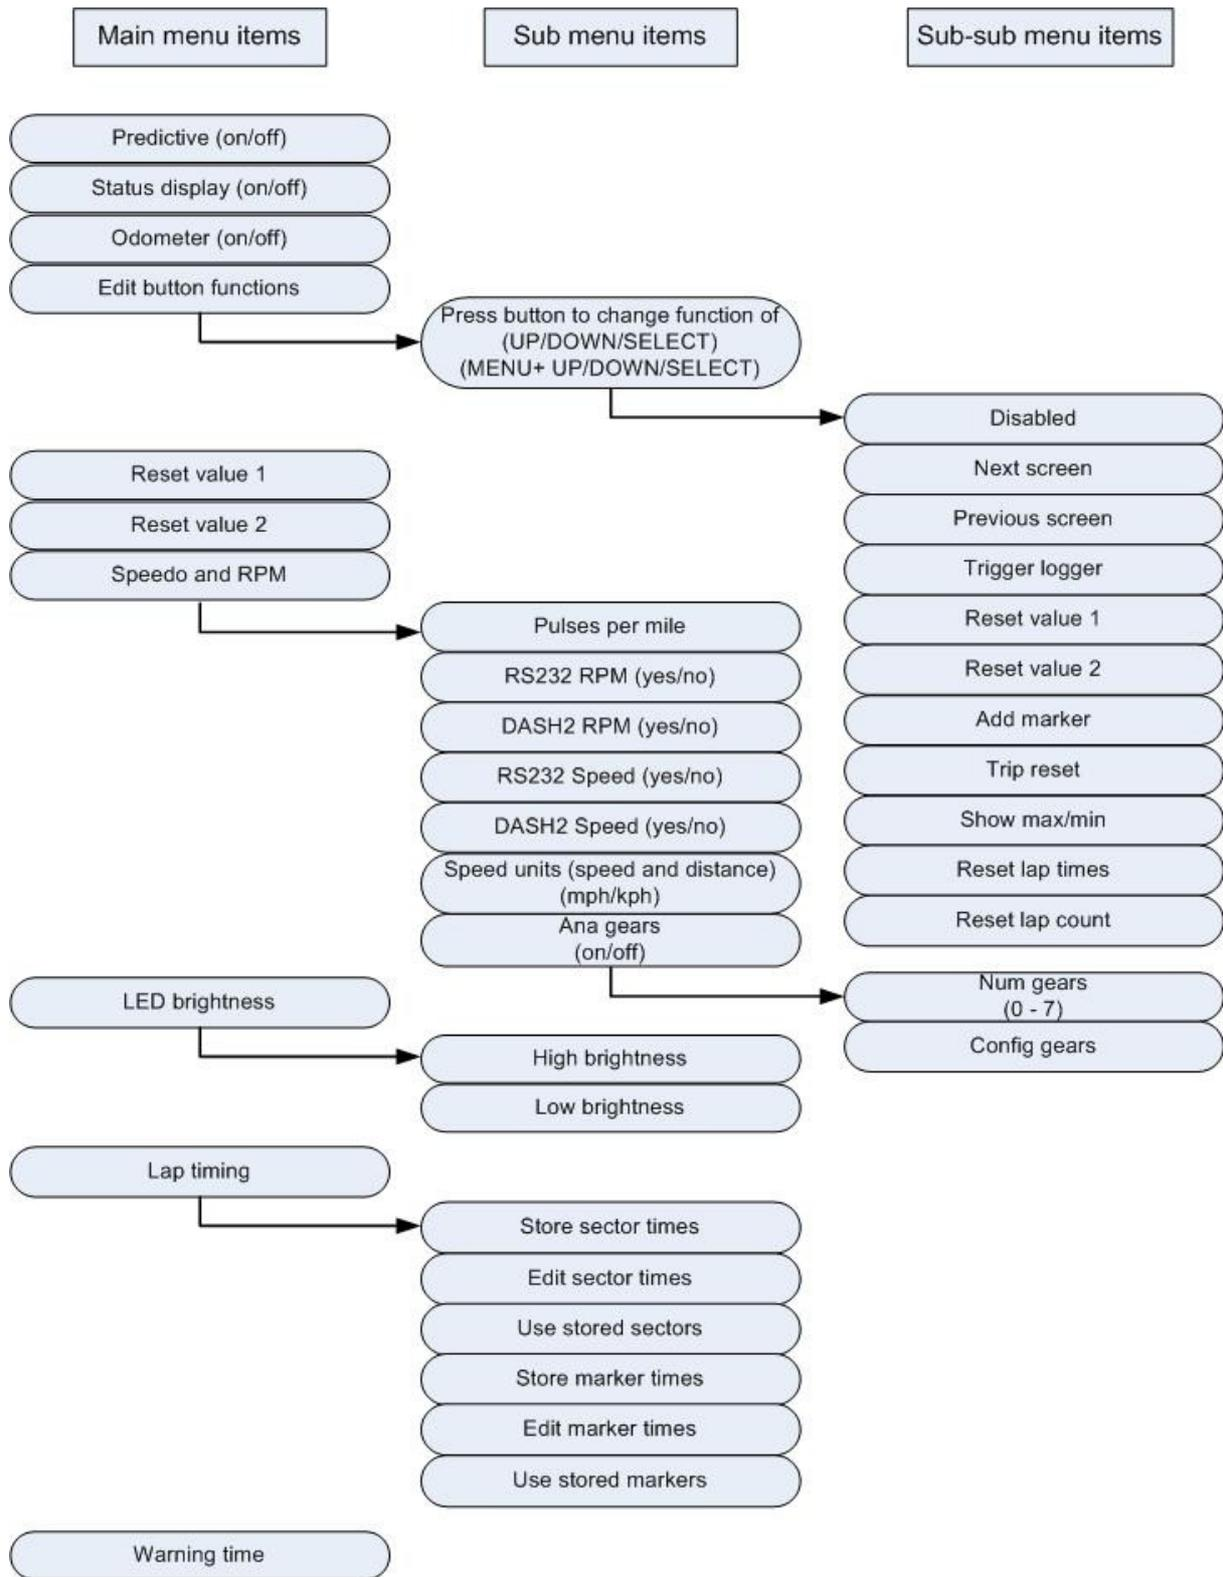

Figure 4: Menu system structure
Figure 4 illustrates the structure of the menu system. The following sections describe the details and operation of each function.
To edit function settings, display the function in question using the UP/DOWN buttons and press SELECT. Use UP/DOWN to change the function settings, then SELECT to save the new setting and return the DASH2 to its normal display mode. Several menu items also have sub-menus, as shown in Figure 4. In the case of the lap timing functions, first press SELECT to access the lap timing functions from the top level menu, then use the UP/DOWN buttons to display the required sub-menu item and press SELECT again to open the settings, followed by UP/DOWN to change the settings and SELECT to save the new settings and return to normal display mode. In the case of speedo and RPM settings, and LED brightness, press SELECT to access these items from the main menu, then use the UP/DOWN buttons to configure the setting for each item and the SELECT button to save each setting and move onto the next item on that sub-menu. When the last item on the sub-menu is reached pressing SELECT will return the DASH2 to the normal display mode. The normal display mode may also be reached, at any time, by pressing MENU.
The status of an attached logger can be displayed on the DASH2, with a tick mark in the top right hand corner, as shown in Figure 1. It is also possible to set the left hand shift light as a secondary, more highly visible logger status indicator. This is selected using the “Status display” option – item 2 in the DASH2 menu system (see Figure 4). When this mode is enabled, the left-most shift light operates as a logging status indicator. The remaining five shift lights operate as normal. In the top left corner of the display (see Figure 1), the DASH2 also has a binary symbol to indicate that serial communications are being received when the unit is used with a Race Technology data logger or other device, such as a PC.
There are five user-configurable screens of data that can be displayed on the DASH2. The data to display on each screen is selected using the DASH2 configuration program on the PC. Once the screens are configured, the programmable buttons can be used to select which screen to display. This enables toggling through the five screens of data. To set up a button to do this, see the section “Programming soft buttons” and assign the “Next screen” or “Previous screen” functions, as shown in Figure 4. When changing between screens, the screen number is briefly indicated at the bottom of the display.
MENU button to provide a further three soft buttons if required. This does not change the function of the buttons from their standard purpose in menu display mode. To change a button function, simply select “Edit button functions” using the UP/DOWN buttons (main menu, item 3), then press SELECT. You will then be asked to press the button you wish to change the function of. Press either SELECT, UP, or DOWN to access the three extra soft buttons, press and hold MENU, without releasing it, press SELECT, UP, or DOWN. The display will change to show which button is selected and the current function assigned to that button. The UP and DOWN buttons can then be used to select any one of 12 functions to assign to this button, as shown in the sub-sub menu in Figure 4. Press SELECT to confirm the button function and return to the main menu.
The DASH2 can store and display maximum and minimum values for each of its input channels. These values can be reviewed by setting one of the buttons to the “Show max/min” function as shown in the sub-sub menu in Figure 4. Refer to “Programming soft buttons” and set the button function to “Show max/min”. Whenever this button is pressed it will temporarily replace the current three displayed channels with their maximum values. This display will be held for around five seconds, during this time, moving on to another display screen will reset the timer, thus enabling you to scroll through all display screens and view all maximum values. If the max/min button is pressed again during this time the screen will change to show the minimum values. A third press of the button will reset all Max/Min values.
It is also possible to hide both the odometer and trip meter – for example in racing applications when this information is not relevant. To hide the odometer and trip meter select “Odometer” from the DASH2 menu system, as shown in Figure 4, and use the SELECT/UP/DOWN buttons to change the setting.
To use a DASH2 button to add markers, refer to “Programming soft buttons” and programme one of the buttons to perform the “Add marker” function, as illustrated in Figure 4. To use a DL1/DL2 switch, connect a switch to the data logger as described in the documentation provided with the data logger itself.